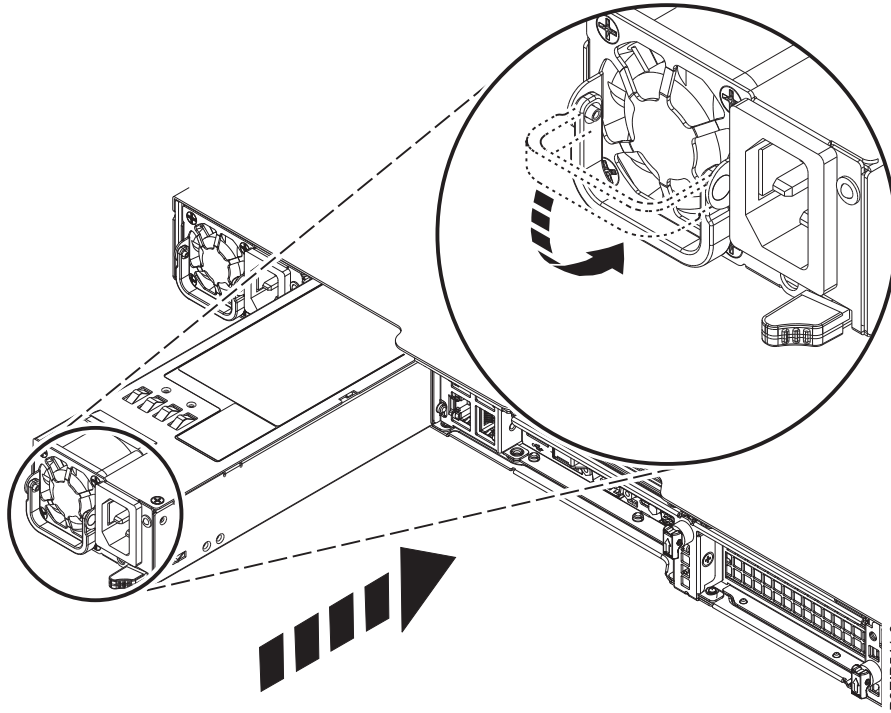

Figure 27. Replacing a power supply in the system
2. Align the power supply with the bay as shown in Figure 27. The fan is on the left; the plug is on the right. Slide the power supply into the system until the latch locks in place.